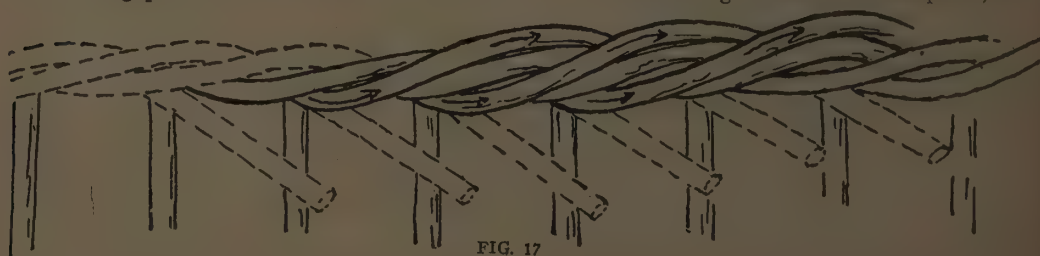

FIG. 17
- (c) Lay each spoke up, over the next two at the right, and push the end through the edge just at the left of the place where a spoke was pinched. Pull every end through the edge to the inside of the basket (Fig. 17).
Dash lines (see Fig. 17) show ends of spokes after second round has been made. Heavy lines show these ends laid up, over the next two to complete the woven edge.